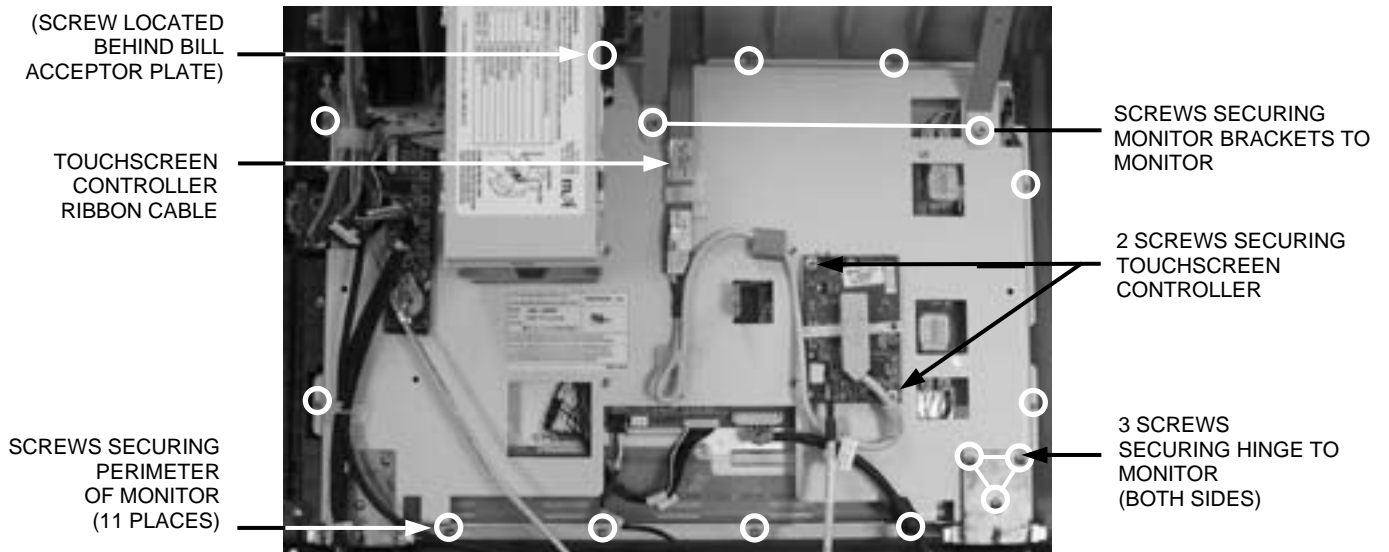

FIGURE 4 – SCREW LOCATION ON REAR OF MONITOR
6. Remove the 2 screws securing the touchscreen controller to the rear of the monitor assembly (see Figure 4), then move the touchscreen controller out of the way for the moment.
7. Remove the screws securing the monitor brackets to the rear of the monitor assembly, then remove the 11 screws that secure the perimeter of the monitor (see Figure 4). Remove the monitor from the bezel.
8. If you are replacing the monitor: Remove the 3 screws securing each hinge to the bottom of the monitor (see Figure 4).
1. If you are replacing the touchscreen: Place the new touchscreen into the monitor bezel with the touchscreen controller ribbon positioned at the top of the bezel (see Figure 4). The touchscreen should rest flush against the foam on the inside of the bezel, and the tape on the new touchscreen should be positioned away from the bezel. **NOTE: Do NOT remove the backing from the tape on the touchscreen.** Replace the monitor on top of the touchscreen with the same orientation it had before you removed it from the system (see Figure 4). Be sure to wrap the touchscreen controller ribbon over the top of the monitor as shown in Figure 4. Attach the touchscreen controller cable connector to the touchscreen controller (see Figure 1), then secure the touchscreen controller to the back of the monitor using the same 2 screws you removed earlier (see Figure 4).